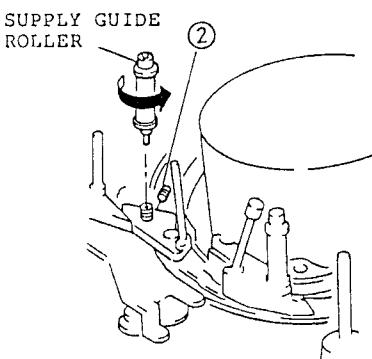

Fig. 2-69
- Remove one (1) hexagonal screw (0.7 mm) holding the supply guide roller. (See Fig. 2-69)